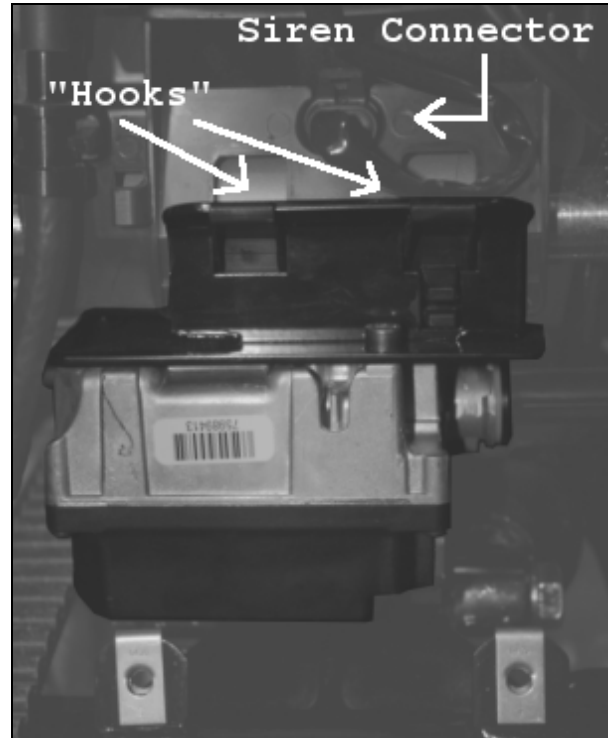

Figure 3. Cruise Control Module Installed
4. See Figure 3. Unplug security siren connector from holder, and remove harness from electrical bracket (you will reposition this later). Position cruise control module bracket on motorcycle such that the top mounting slots fit over the security siren "hooks" on electrical bracket. The lower two cruise control module bracket bolt holes will line up with holes in the transmission casting. Position nut retaining plate on top of transmission casting over the two holes. Apply liquid thread lock to provided 1/4" bolts
5. Secure CCWH to main circuit breaker wire harness using supplied cable ties. See Figure 3 – CCWH is visible to right of cruise control module.